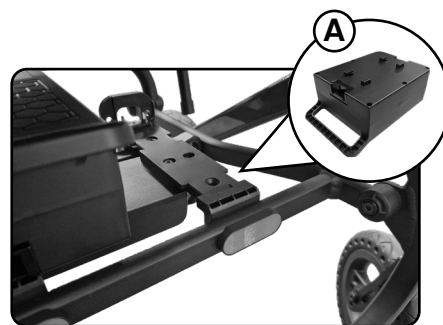

Fig. 13
- Hold the battery handle, place the locking pins (on the underside of the battery case) **(A)** into the slots (Fig. 13) and push the battery to lock in place.